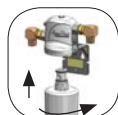

fig. 13
2. Remove protective red cap from cartridge (2). Align centre of label on cartridge with inlet on head (1), push cartridge into head firmly and turn to right (ref fig 13).